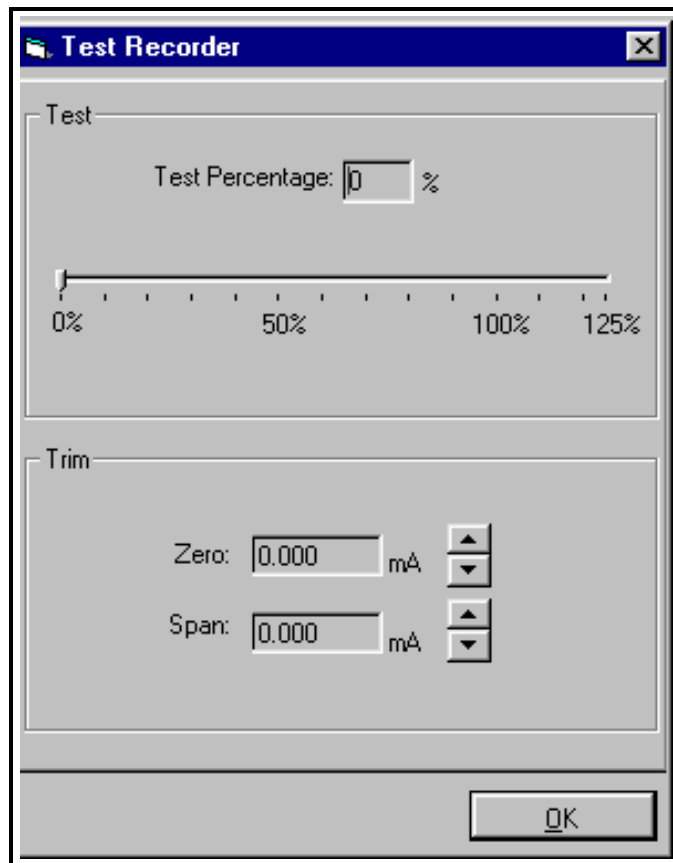

Figure 15: Recorder Test Window
2. The “Test Recorder” window appears, as shown in Figure 15 below. At the top, slide the pointer to the desired percentage of the full scale recorder range, and click on [OK].